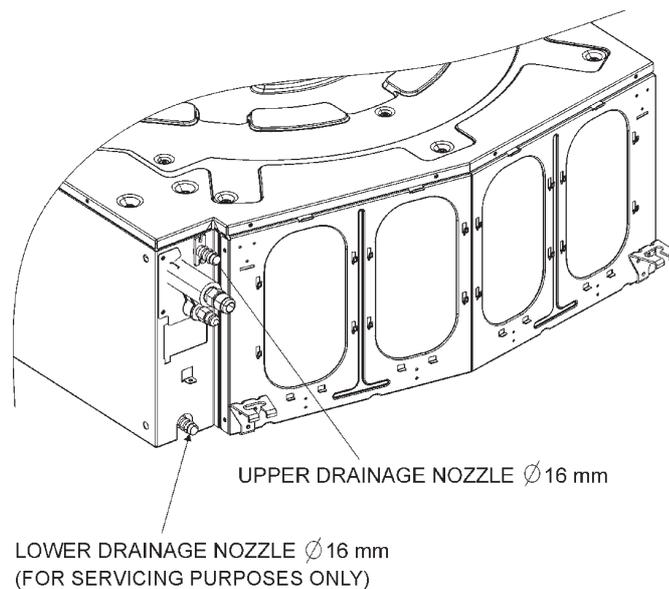

Fig. 13. Drainage connectors \varnothing 16 mm
- C. The unit includes a drainage pump with level control, which can elevate condensation water to a level of up to 60 cm from the unit's lower level. The drainage tube is connected to the upper drainage nozzle (see Fig. 13).